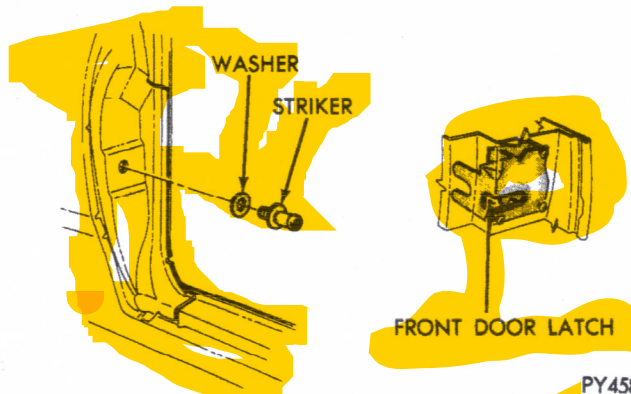
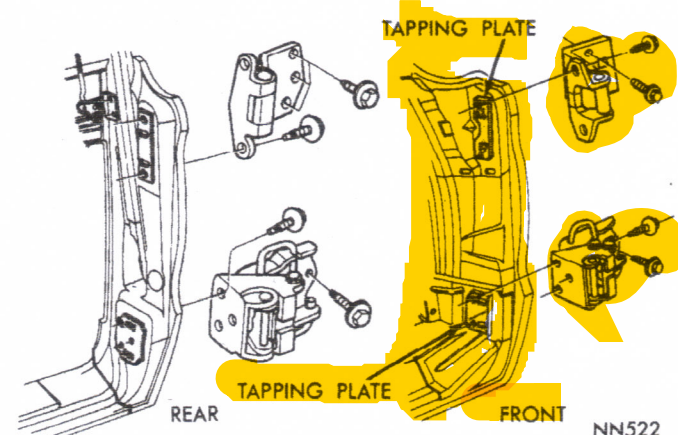

Fig. 14—Door Latch Striker Adjustment
Fig. 13—Door Hinges
Adjustment of the door can be made at either the pillar or door hinge halves (Fig. 13).
DOOR LATCH STRIKER ADJUSTMENT (Fig. 14)
- (1) Check all doors for contour and spacing, and all door lock strikers for proper relation to locks. Fit and readjust as follows:
- (2) Open doors.
- (3) Loosen door latch striker (Fig. 14).
- (4) Loosen the necessary hinge bolts to suit each door as follows: (Fig. 13).
- half) (2) upper and (3) lower bolts.
- (5) Readjust and fit doors to door openings for alignment of contour lines and belt surfaces.
- (6) Secure previously loosened hinge bolts (Fig. 13).
- (7) Readjust door latch striker.
- (8) Tighten and retorque striker to 40 to 60 foot-pounds (Fig. 14).
- (9) Close doors.